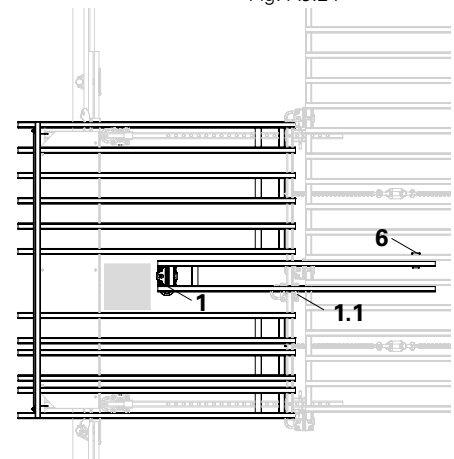

Fig. A9.26
7. Place the Filler Elements GFL 183 x 20 at the point of disruption using props (1) and connect them with the Clamp GFK (6), see top view. (Fig. A9.26)